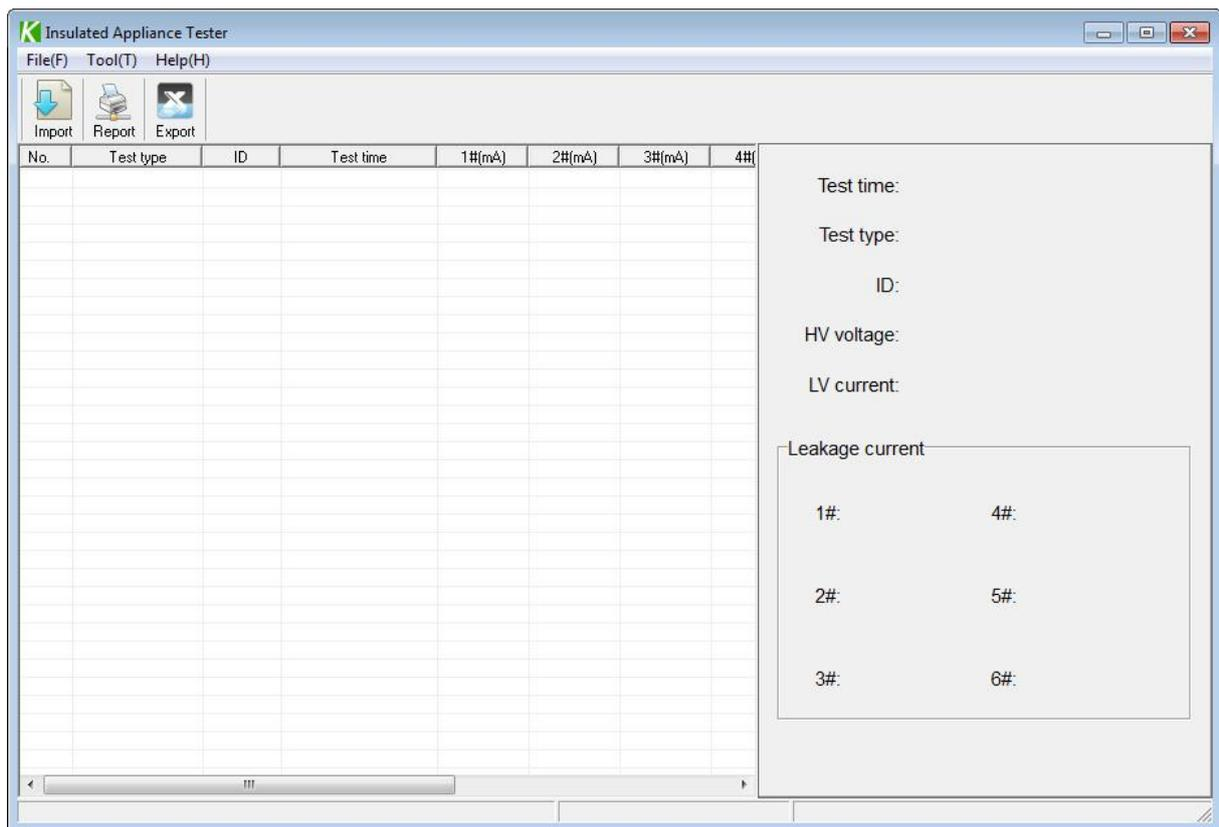

Figure 5.2 Software Interface
1. Double click  , Run the insulated boots (gloves) withstanding voltage tester supporting the host software, as shown in Figure 5.2.